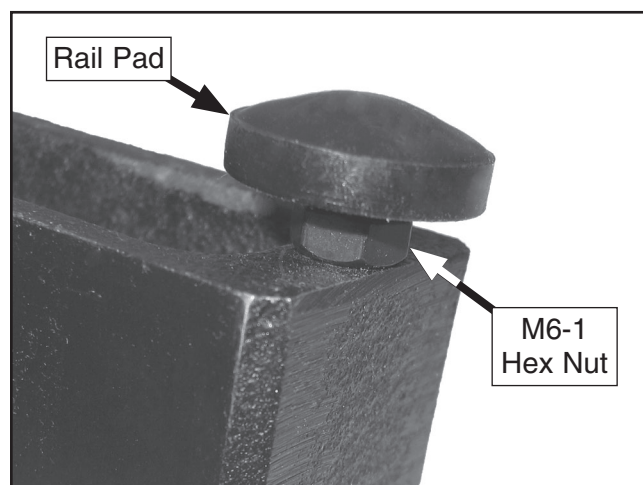

Figure 14. Installed rail pad on back end of fence.
16. Thread the M6-1 hex nut onto the rail pad, then thread the rail pad into the underside of the back end of the fence (see **Figure 14**).